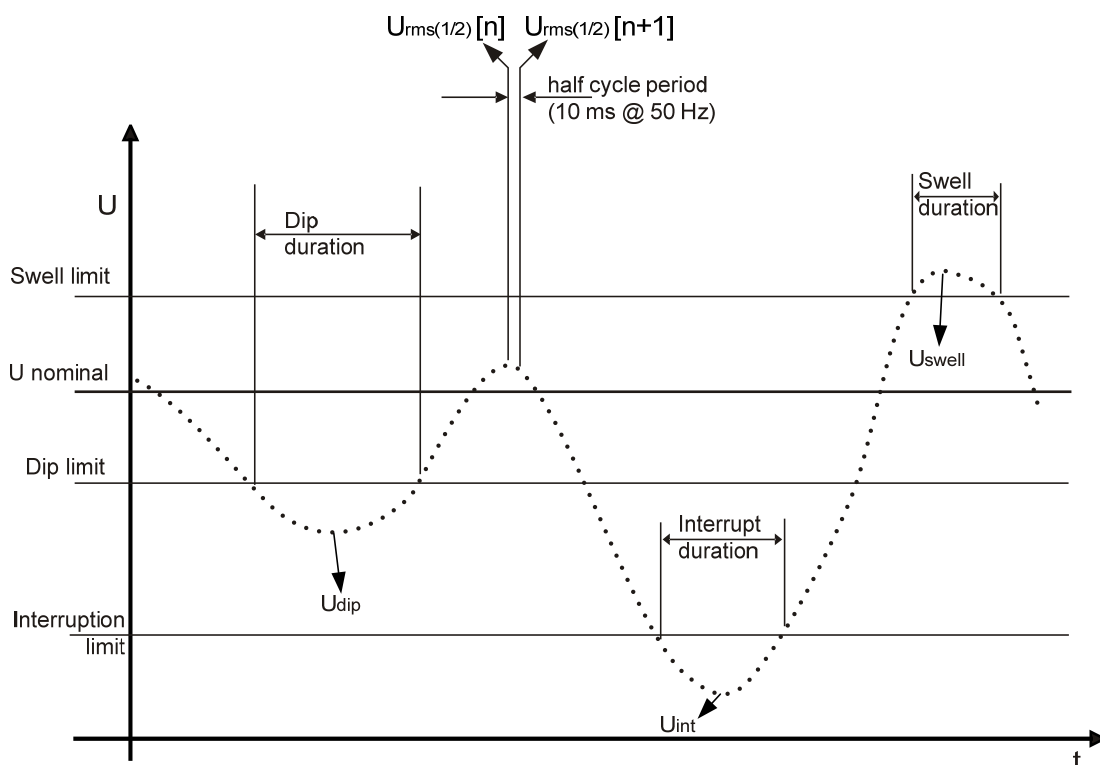

Figure 5.9 Voltage events definition
- On single-phase systems, a voltage dip begins when the $U_{Rms\frac{1}{2}}$ voltage falls below the dip threshold, and ends when the $U_{Rms\frac{1}{2}}$ voltage is equal to or above the dip threshold plus the 2% of hysteresis voltage (see Figure 5.9).
- on single-phase systems, a voltage swell begins when the $U_{Rms\frac{1}{2}}$ voltage rises above the swell threshold, and ends when the $U_{Rms\frac{1}{2}}$ voltage is equal to or below the swell threshold plus the 2% of hysteresis voltage (see Figure 5.9),
- On single-phase systems, a voltage interruption begins when the $U_{Rms\frac{1}{2}}$ voltage falls below the voltage interruption threshold and ends when the $U_{Rms\frac{1}{2}}$ value is equal to, or greater than, the voltage interruption threshold plus the hysteresis (see Figure 5.9),